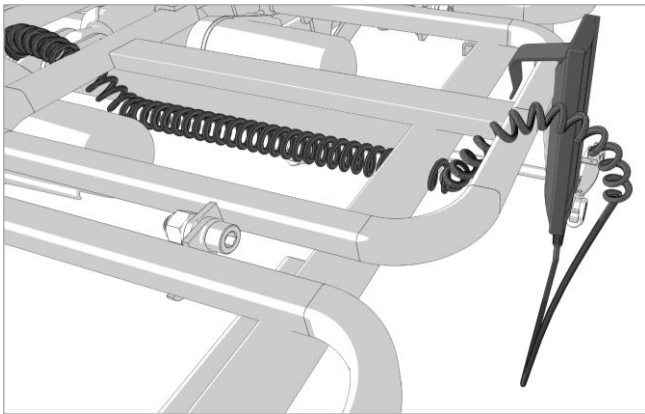

Figure 8.20
2. The Handset should then be passed up through the side of the mattress platform to keep the cable clear of the lift mechanisms. As shown in Figure 8.20.